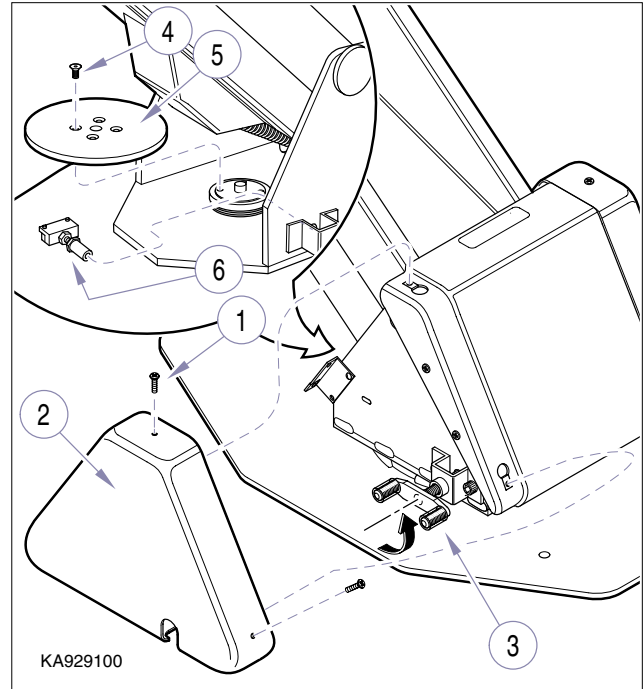

Figure 4-22. Lock Block Removal.
- (2) Unplug chair power cord from wall outlet.
- (3) Remove three screws (1, Figure 4-22) and R.H. base cover (2).